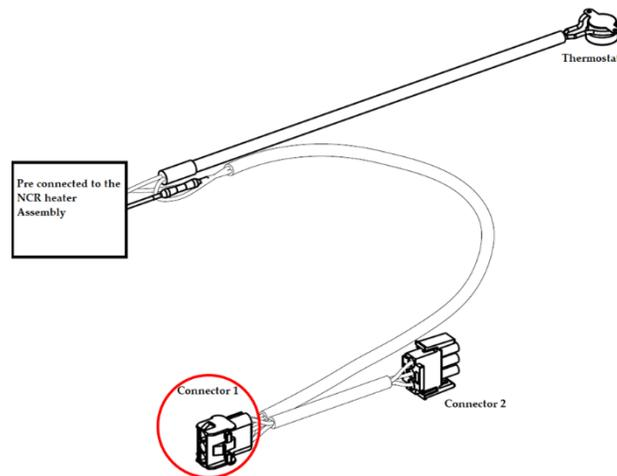
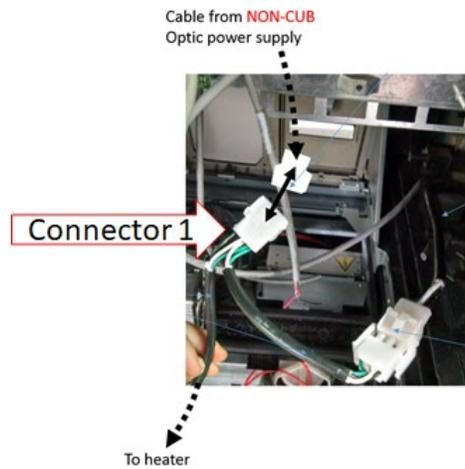

Figure 219
Figure 220
30) Attach Connector 1 (identified in Figure 219) to the NON-Invenco Link OPTIC power supply cable as shown in Figure 220.